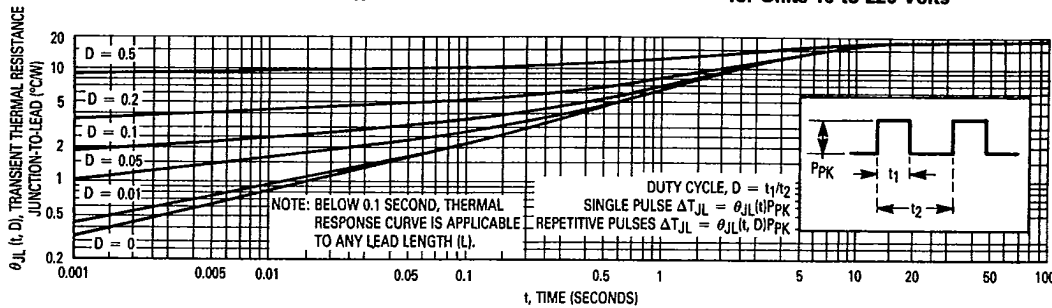
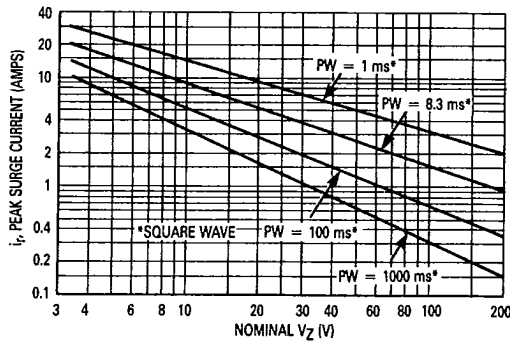
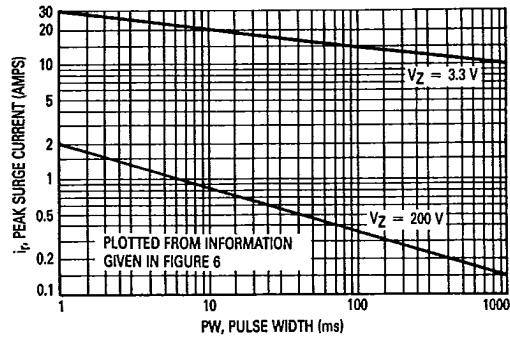

Figure 4. Typical Thermal Response L, Lead Length = 3.8 Inch
Figure 6. Maximum Non-Repetitive Surge Current versus Nominal Zener Voltage (See Note 3)
Figure 7. Peak Surge Current versus Pulse Width (See Note 3)
- SURGE CURRENT (I_S) — Surge current is specified as the maximum allowable peak, non-recurrent square-wave current with a pulse width, PW, of 8.3 ms. The data given in Figure 6 may be used to find the maximum surge current for a square wave of any pulse width between 1 ms and 1000 ms by plotting the applicable points on logarithmic paper. Examples of this, using the 3.3 V and 200 V zeners, are shown in Figure 7. Mounting contact located as specified in Note 3. (T_A = 25°C ± 2°C).
Data of Figure 4 should not be used to compute surge capability. Surge limitations are given in Figure 6. They are lower than would be expected by considering only junction temperature, as current crowding effects cause
temperatures to be extremely high in small spots resulting in device degradation should the limits of Figure 6 be exceeded.